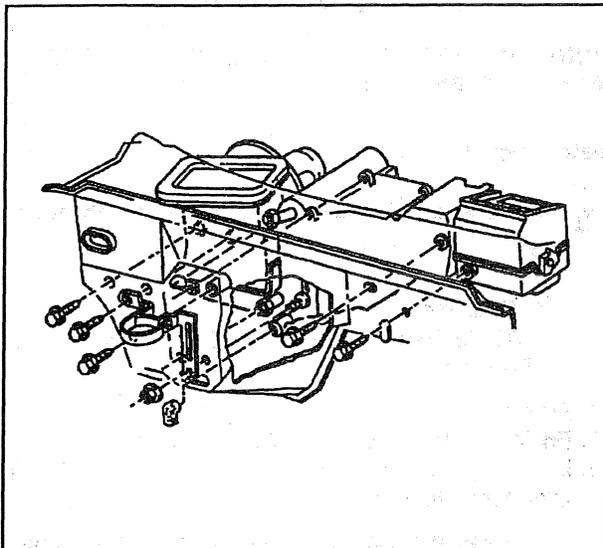

Figure 11—Heater Case (2 of 2)
- Four screws on the engine side of the cowl holding the heater case to the cowl (figure 11).
- Two nuts on the engine side of the cowl holding the heater case to the cowl (figure 11).